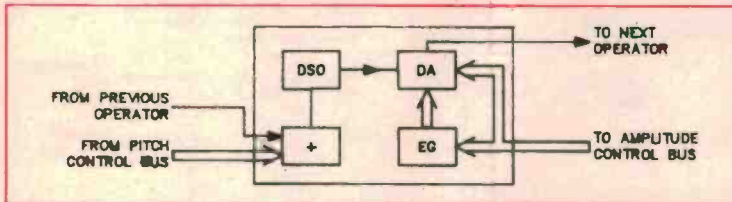

Figure 7. Operators in FM synthesis.
FM synthesisers create sounds using four to six operators (see Figure 7), which can be arranged to create different algorithms. Each operator consists of a digital sine oscillator (DSO) and a digital amplifier (DA), both of which are implemented in software. The envelope generator used to control each operator is implemented in software too, therefore the diagram is purely representative. Sounds are generated by digitally controlling the frequency and amplitude of the operators via the DSOs and the DAs. Figure 8 shows a block diagram of an FM synthesiser.